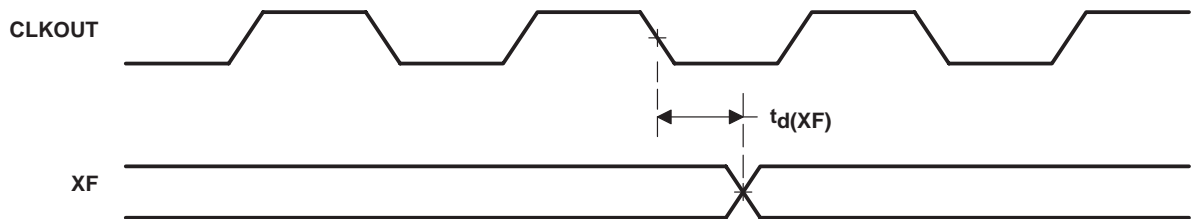
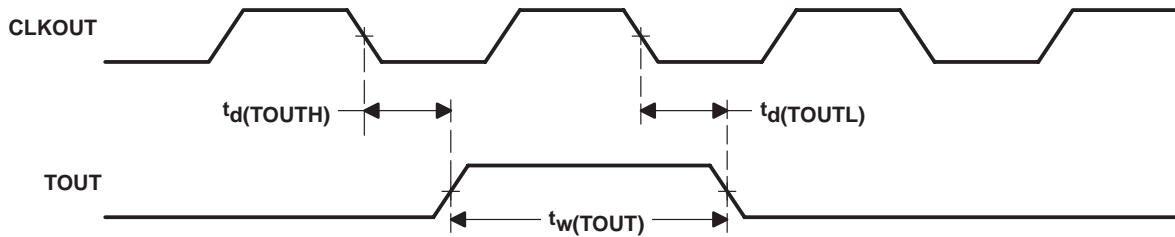

Figure 30. External Flag (XF) Timing
Figure 31. TOUT Timing
switching characteristics over recommended operating conditions for external flag (XF) and TOUT [H = 0.5 $t_c(\text{CO})$] (see Figure 30 and Figure 31)